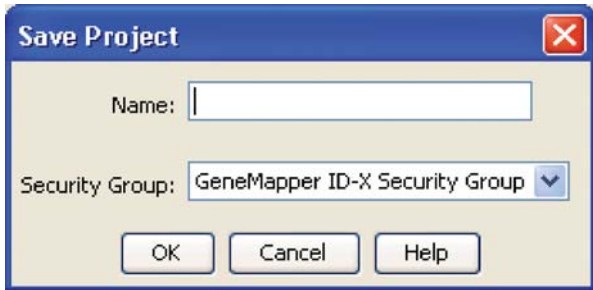

Figure 12. The Save Project window.
9. If all analysis requirements are met, the Save Project window will open (Figure 12).